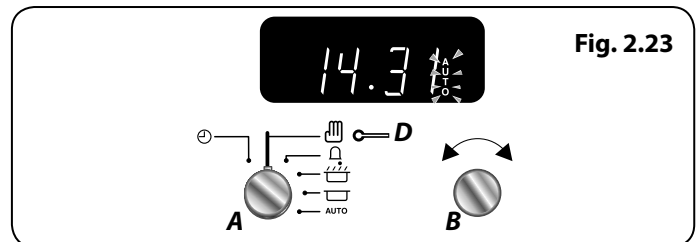

Fig. 2.23
5. Once the specified time has elapsed it will emit an alarm and the Multifunction Oven will stop working. The 'Cooking' symbol on the display will disappear and the word **'AUTO'** will flash (**Fig. 2.23**).
6. When you return, turn the **Timer (A)** knob to the **Manual (D)** setting to return to manual cooking and reset the Multifunction Oven modes once cooking is complete (**Fig. 2.23**).